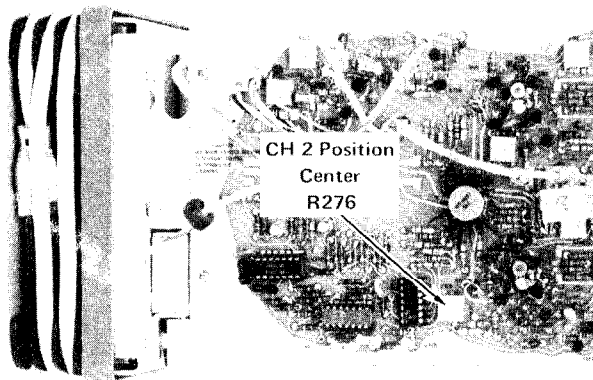

Fig. 5-11. Location of CH2 Position Centering adjustment.
d. ADJUST—CH 2 Position Centering adjustment, R276 (see Fig. 5-11), so the top of the CRT display can be positioned below the center horizontal graticule line, and the bottom of the display can be positioned above the center horizontal graticule line.